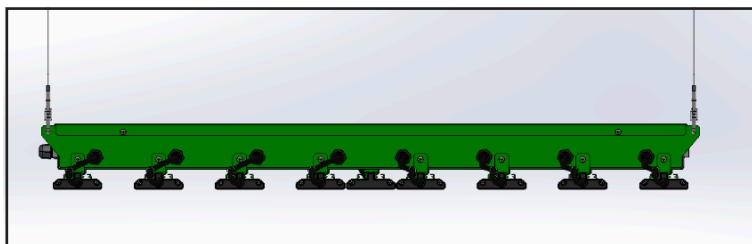

FIG. 5
- Before proceeding with the electrical installation, adjust the luminaire until it's leveled in both direction (FIG. 5).